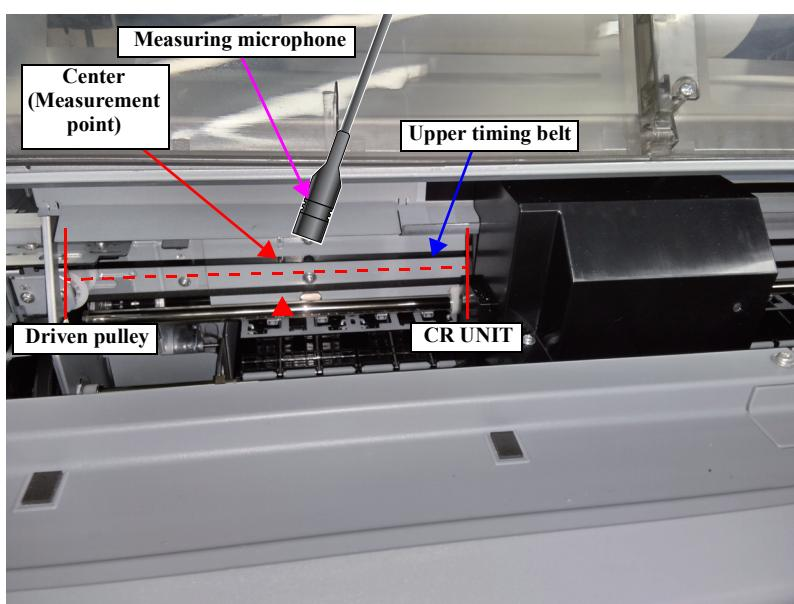

Figure 4-21. Measuring the belt tension
7. Bring the microphone of the tension meter closer to the position shown in Figure 4-21.